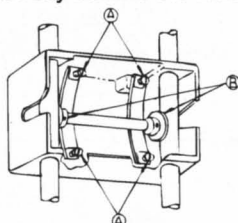

Figure 14
1. Pry the sheet metal cover from the enlarger and expose the two tension springs. (See Fig. 14).
2. Tighten the screws (A) by turning them clockwise to increase tension.
3. If friction wheel (B) is slipping on focus shaft, tighten the set screws on the wheel.